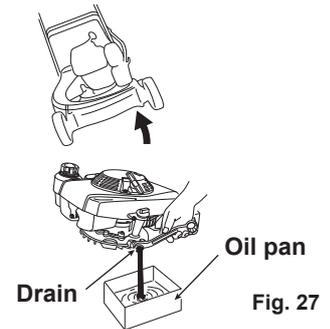

Fig. 27
2. Drain the engine oil from the drain port. (See Fig. 27)